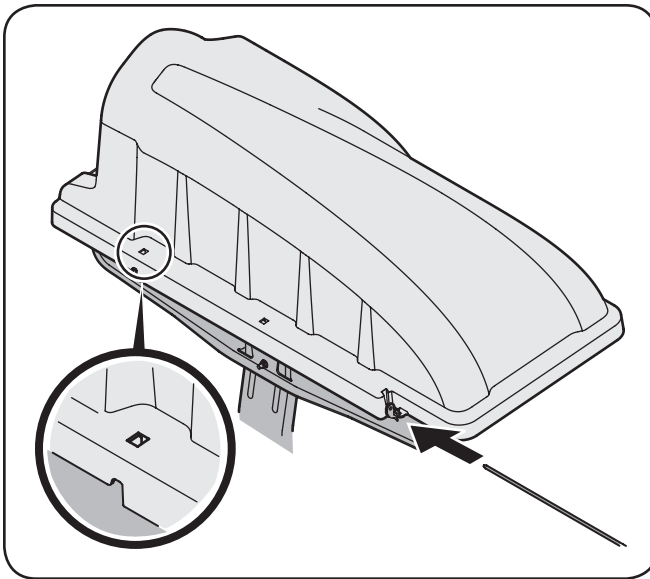
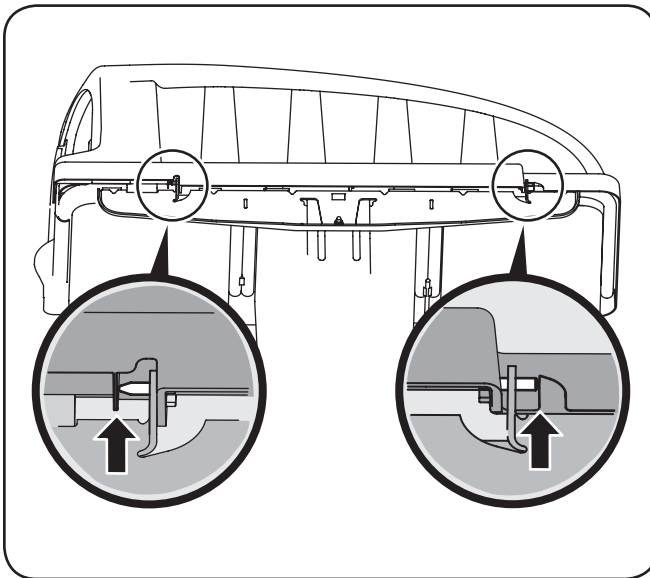

Figure 4-13
Figure 4-14
6. Slide the hinge pin into the hole located on the mounting tab, as in Figure 4-13. Use the cut-out window (See inset in Figure 4-13) to line up the hinge pin on the other side and push pin all the way in until it reaches the end-stop. At this point the pin clips into place and is secured by a tab in the bagger cover. See Figure 4-14.